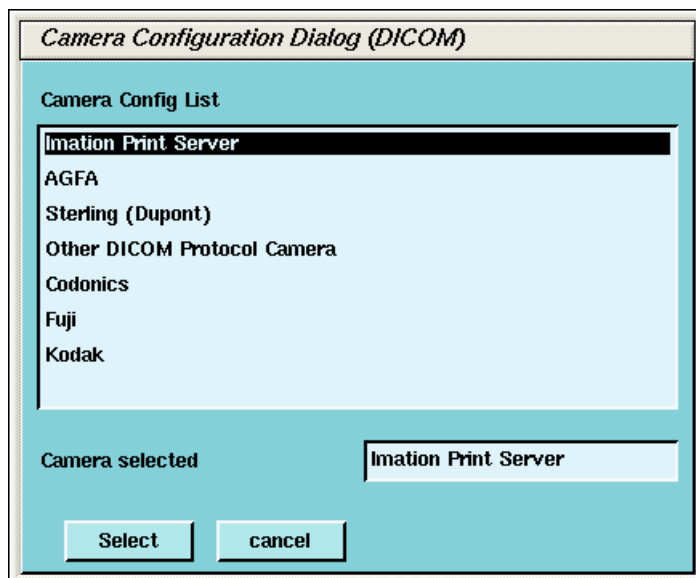

Figure 4-14 Camera Model Dialog (DICOM)
- a.) A list of camera models appears (See Figure 4-14). Select the appropriate model from the list and click SELECT. Clicking SELECT presets all the parameters to that models except the Network parameters.